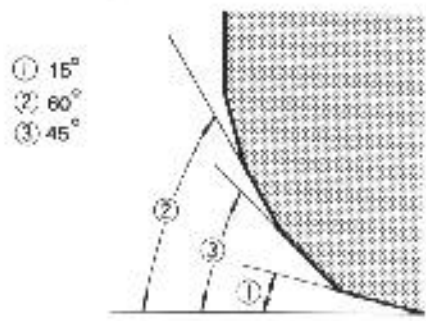

Fig. 3-68 Valve seat angles for inlet valve seat
2) INLET VALVE SEAT: The cutting sequence is the same as for exhaust valve seats but the second angle differs, as will be noted in Fig. 3-68.